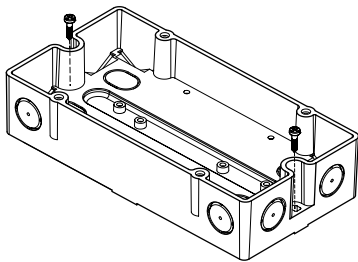

Fig. 4
3. Use two screws to fit the housing on a plane surface (Fig. 4).